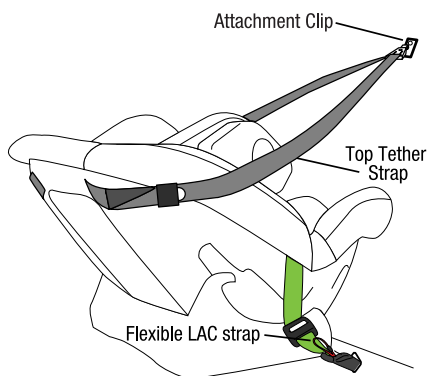

Figure 6
Step 6: Hook the attachment clip to the upper anchor fitting (refer Figure 6).